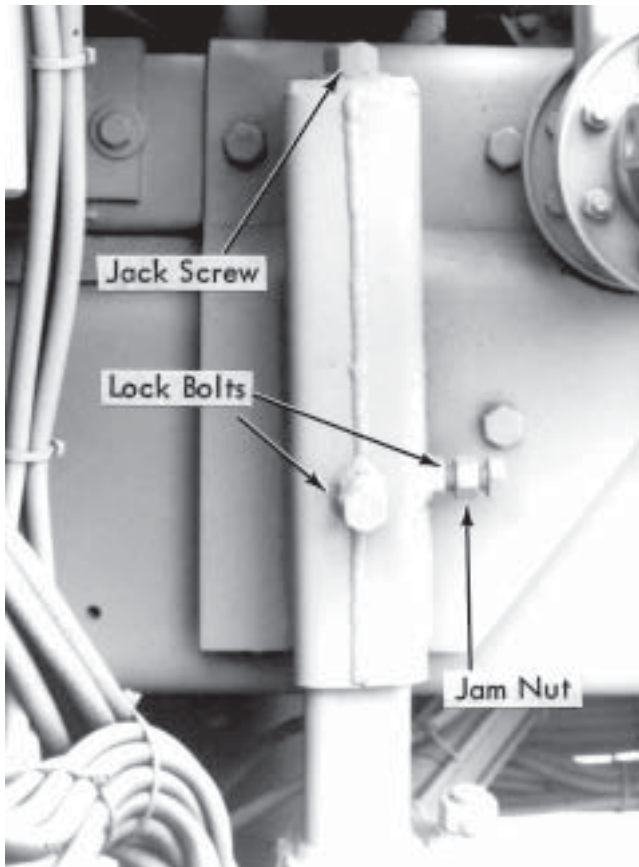

Figure 6. Vertical Carry Post.
- The four 1/2 inch set bolts and jam nuts on the vertical carry posts (Fig. 6).